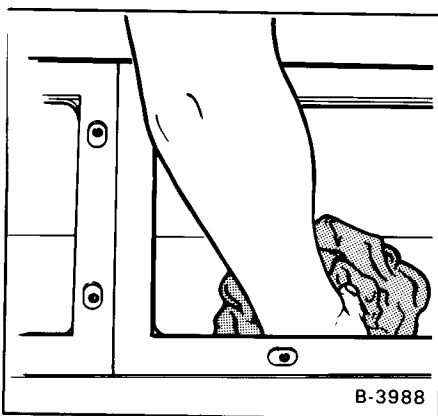

Fig. 71 Cleaning Chaincase
3. Clean the bottom of the chaincase using cleaning rags (Fig. 71).